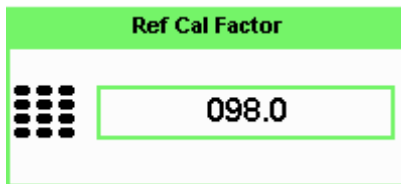

Figure 7-3 Reference Calibration Factor pop-up window
- 4 To change the settings, press the channel **REF CF** . The reference calibration factor pop up window is displayed as shown in Figure 7-3. Use the numeric keypad to enter the required value in the **Ref Cal Factor** pop-up menu.